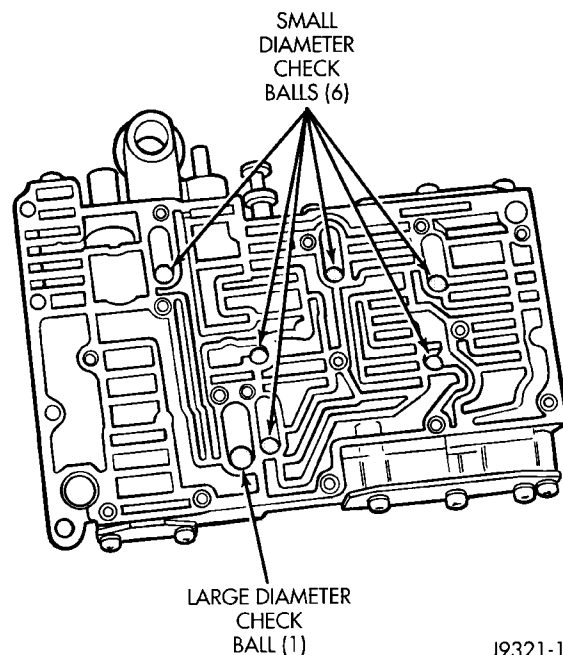

Fig. 79 Check Ball Locations In Upper Housing
- (1) Position upper housing so internal passages and check ball seats are facing upward. Then install check balls in housing (Fig. 79). Eight check balls are used. The single large check ball is approximately 8.7 mm (11/32 in.) diameter. The single small check ball